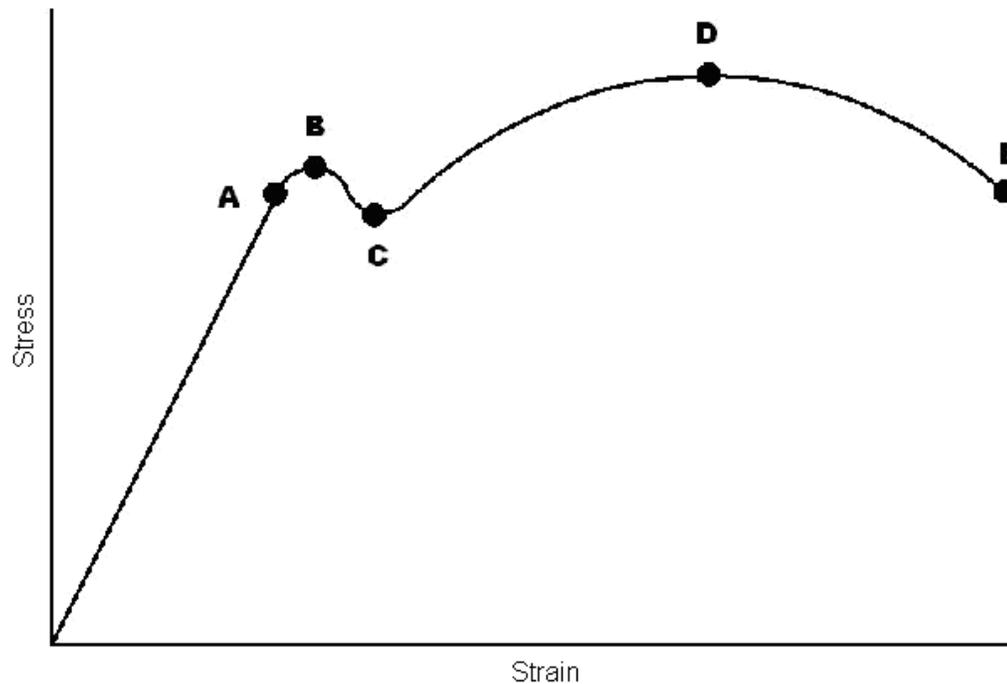

FIGURE 1.6
- 1.14 What does point A denote in the stress/strain diagram shown in FIGURE 1.6?